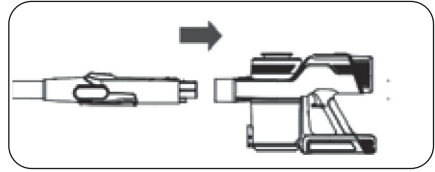

Figure 2
- To remove the aluminum tube, hold the main body with one hand and pull it out with the other hand pressing the button. (figure 2)